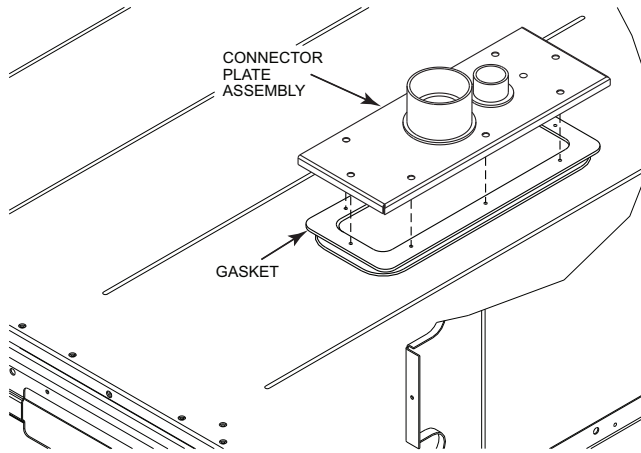

Fig. 43 — Completing Installation of Thru-the Base Option
3. Place the gasket over the embossed area in the basepan, aligning the holes in the gasket to the holes in the basepan. See Fig. 43.